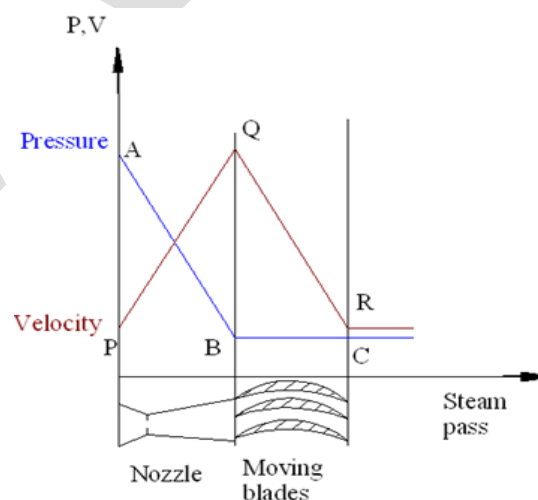

Fig. 3.1 Impulse turbine
**3.2.1 Impulse Steam Turbine:** Impulse or impetus means sudden tendency of action without reflexes. A single-stage impulse turbine consists of a set of nozzles and moving blades as shown in figure 3.1. High pressure steam at boiler pressure enters the nozzle and expands to low condenser pressure in the nozzle. Thus, the pressure energy is converted into kinetic energy increasing the velocity of steam. The high velocity steam is then directed on a series of blades where the kinetic energy is absorbed and converted into an impulse force by changing the direction of flow of steam which gives rise to a change in momentum and therefore to a force. This causes the motion of blades. The velocity of steam decreases as it flows over the blades but the pressure remains constant, i.e. the pressure at the outlet side of the blade is equal to that at the inlet side. Such a turbine is termed as impulse turbine. Examples: De-Laval, Curtis, Moore, Zoelly, Rateau etc.